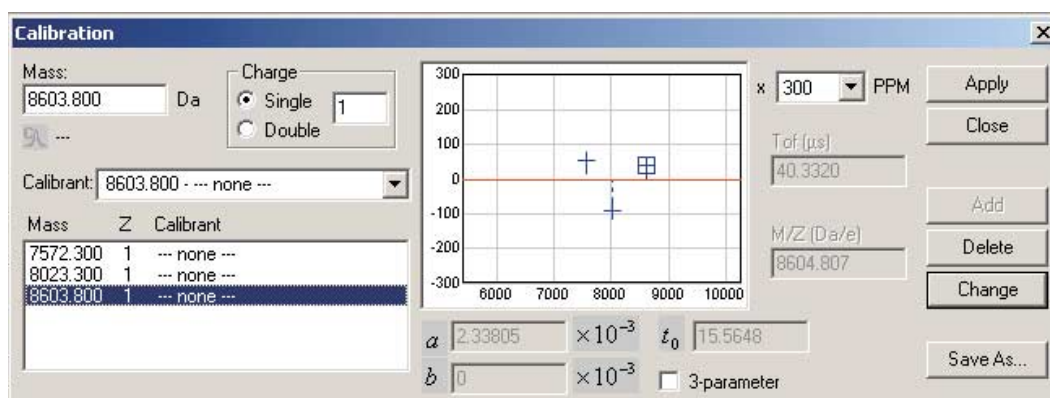

Figure 1-24: The residual plot in the **Calibration** dialog.
7. Review the residual plot (in the box near the center of the **Calibration** dialog, Figure 1-24). It shows the fit of the calibration points to the calculated calibration curve, and is used to determine if any of the mass calibration standards are misidentified or are significantly outside the expected mass accuracy. In a good calibration equation, the calibration points (blue cross-hair boxes) will lie close to the calibration curve in the residual plot (represented by the horizontal red line). If any of the calibration points significantly deviate from the calibration curve, the calibration equation may be inaccurate.